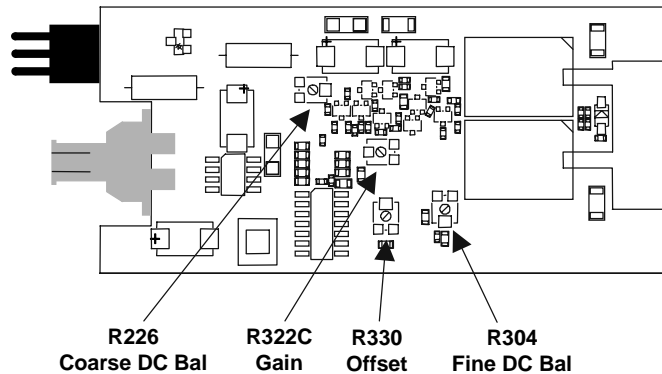

Figure 10. Amplifier Board Adjustment Locations
5. Using a low capacitance screwdriver, adjust **Coarse DC Bal** (R226) on the Amplifier Board for an output voltage of 0 mV \pm 10 mV (Figure 10).
12. Using a low capacitance screwdriver, adjust **Offset** (R330) to bring the trace back to exactly center screen. (See Figure 10 for adjustment location.)
9. Using a low capacitance screwdriver, adjust **GAIN** (R322C) so that the DMM reading is within ± 1 mV (0.5%) of the reading recorded in step E-6. (See Figure 10 for adjustment location.)
5. Adjust **Attenuator CMRR** (capacitor C18A) for minimum amplitude shift of the displayed waveform at the trigger point in time. See Figure 10 for adjustment location.